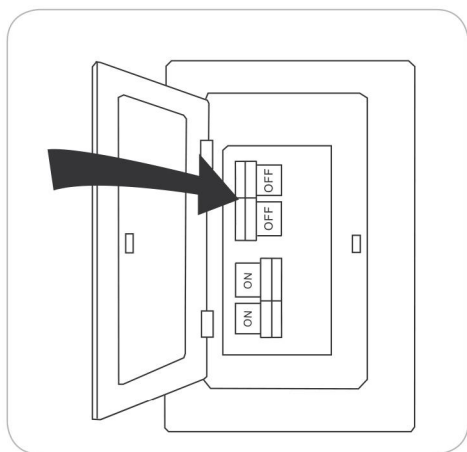

Figure 1.1
1. Turn off power to the fan at the breaker box and the wall switch (Figure 1.1). **DANGER:** Failure to disconnect the power supply prior to installation may result in serious injury or death.
Depending on your room's roof structure: Choose concete ceiling or wooden ceiiing mounting bracket screws (Figure 1.1/ Figure 2.2).